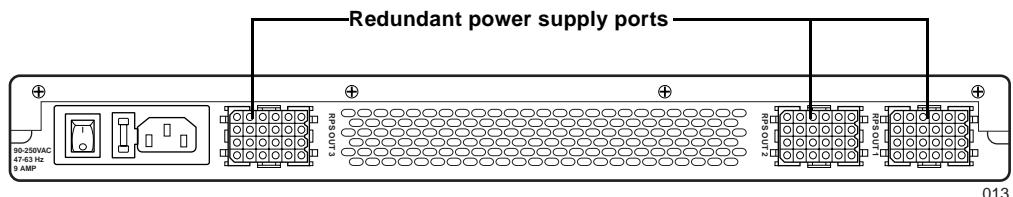

Figure 2-6 Redundant Power Supply Back Panel
5. Connect each ACEdirector to the redundant power supply port (Figure 2-6).